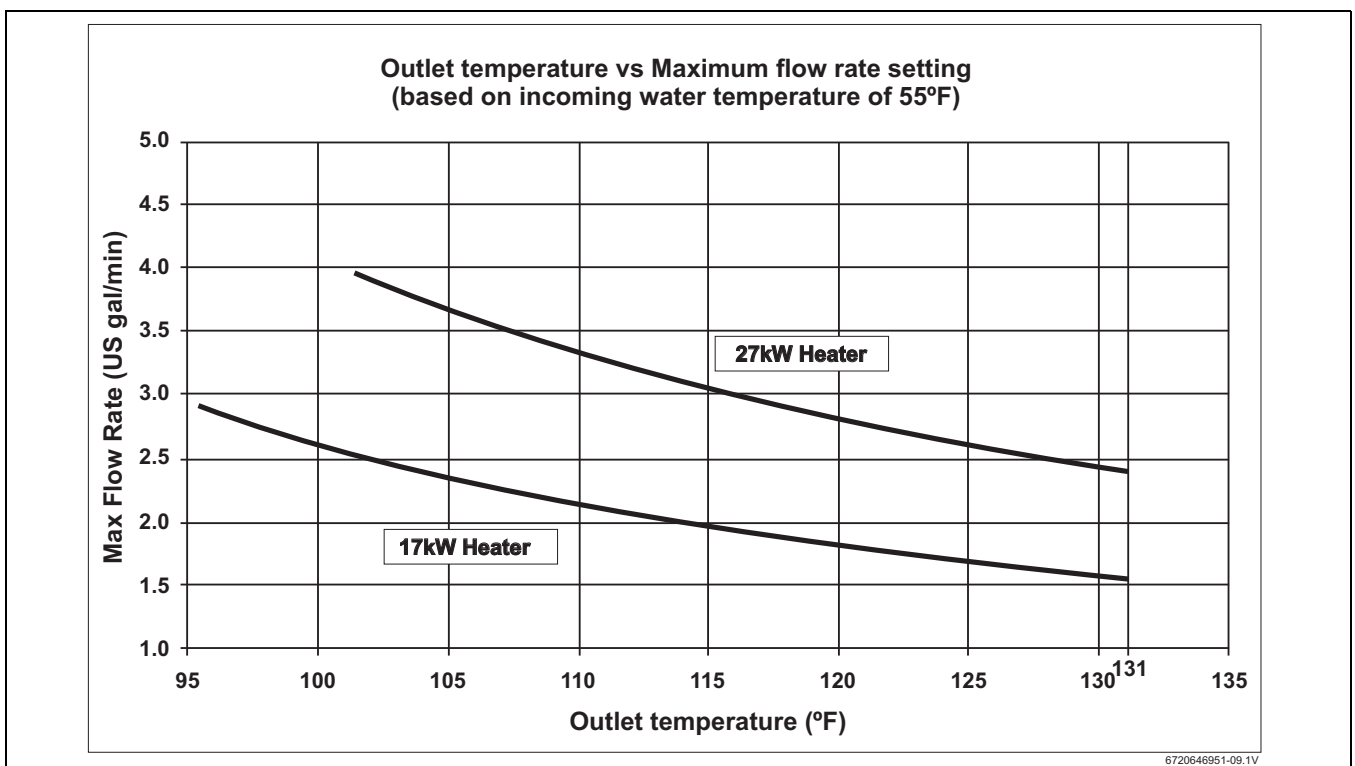

Fig. 11
- ▶ Adjust the outlet shut-off valve until the water flow rate from the hot faucet corresponds to the value given in Fig. 11 below.
These figures are based on an inlet water temperature of 55 °F and a supply voltage of 240 volts. If the inlet water temperature is lower than 55 °F, or if the supply voltage is less than 240 volts, then the outlet temperature will be lower than what is shown in Fig. 11. If a higher outlet water temperature is desired, then reduce the flow rate and/or supply the unit with 240 volts.
The inlet water temperature is too cold	Verify the heater is sized appropriately for its geographic location. Turn temperature knob located on the bottom of the water all the way clockwise for maximum temperature setting. Ensure flow rates are within the heater’s specifications. Refer to Fig. 11 on page 17 of the manual. Use of an isolation valve on the hot water outlet to control flow rate is recommended.
Temperature dial is turned too low	Turn the temperature dial located on the bottom of the water heater clockwise for hotter temperatures. Refer to Fig. 11 for outlet temperature vs. flow rate variance.
Water flow is too high	Adjust water flow to stay within the water heater’s specifications. See Fig. 11 of this manual.
Outlet shut-off valves are set too low	Adjust installer supplied outlet valve as described below: <ul style="list-style-type: none"> • Completely open both installer supplied inlet and outlet shut-off valves at the heater. (if none installed, install before proceeding). • Completely open hot water on the highest flowing hot water fixture served by the heater (i.e. bathtub). • Slowly close the outlet shut-off valve, slowing the water flow rate until the temperature at the hot water faucet corresponds to the values given on Fig. 11 of the manual, or desired water temperature is reached.
Changing flow rate. Water supply connected to the outlet of the unit.	Major changes in flow rate can adversely affect the output water temperature of the heater. Increases from one major fixture running to multiple fixtures running at one time can cause the temperature to fluctuate. Stay within the heater’s specifications. See Fig. 11.